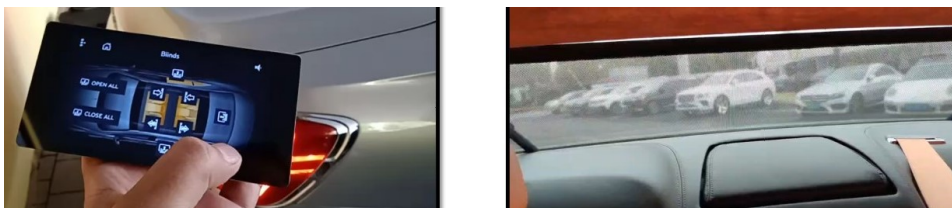

Figure 1
- Attach a clear video and photographs of the failure mode to a new or existing DISS query (see examples in Figure 1)